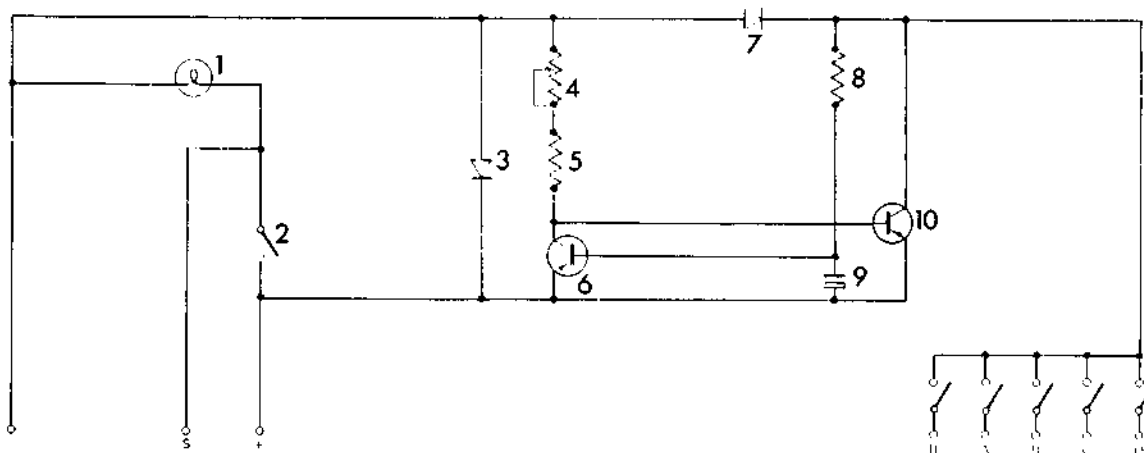

FIG. 2 TRANSISTORISED TWO GEAR PROTECTION CIRCUIT
**TRANSISTORISED PROTECTION UNIT, Fig. 2**